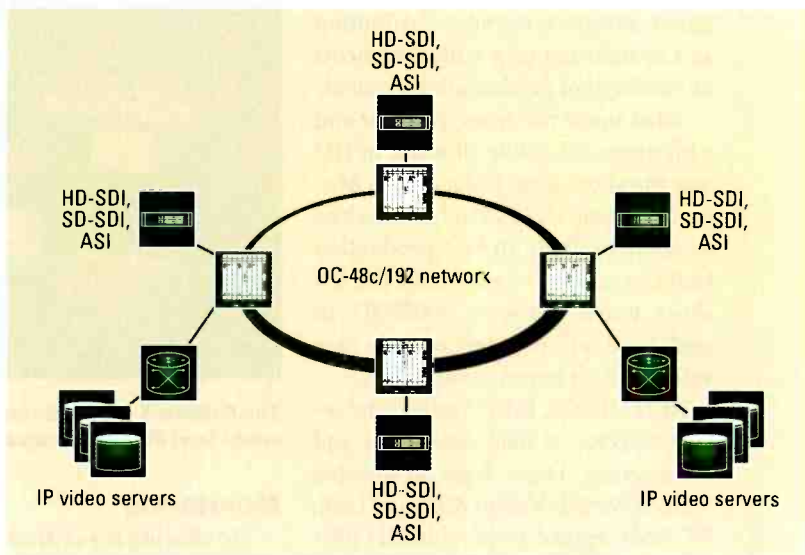

Figure 5. Facility-to-facility interconnection over a leased circuit
• **Configuration 5.** Multiservices, any-to-any connectivity over SONET/SDH. (See Figure 5.)